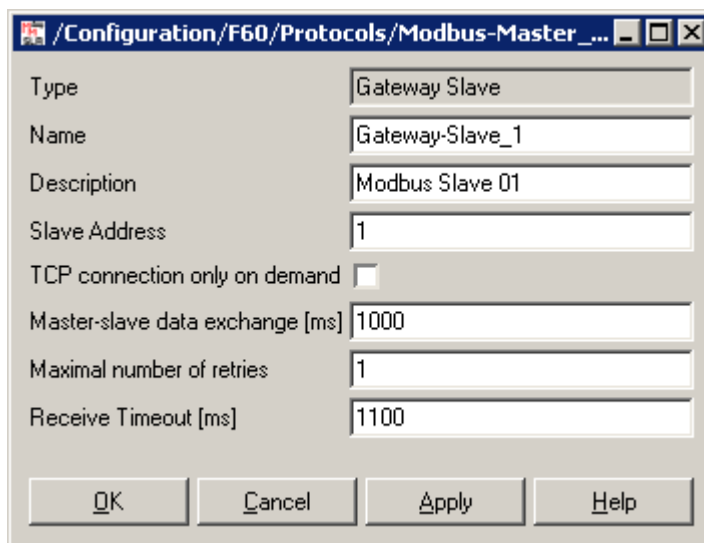

Figure 27: Gateway Slave
- ❑ Enter the parameters displayed in Figure 27.